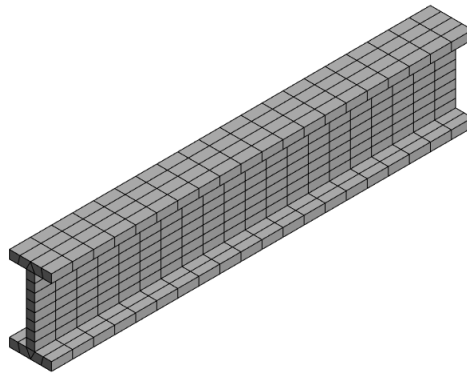

Figure 2-46 Mesh generated with default mesh controls
2. In the **Outline** pane, right-click on **Mesh**; a shortcut menu is displayed. Choose the **Generate Mesh** option from it to generate the mesh with default settings, as shown in Figure 2-46.